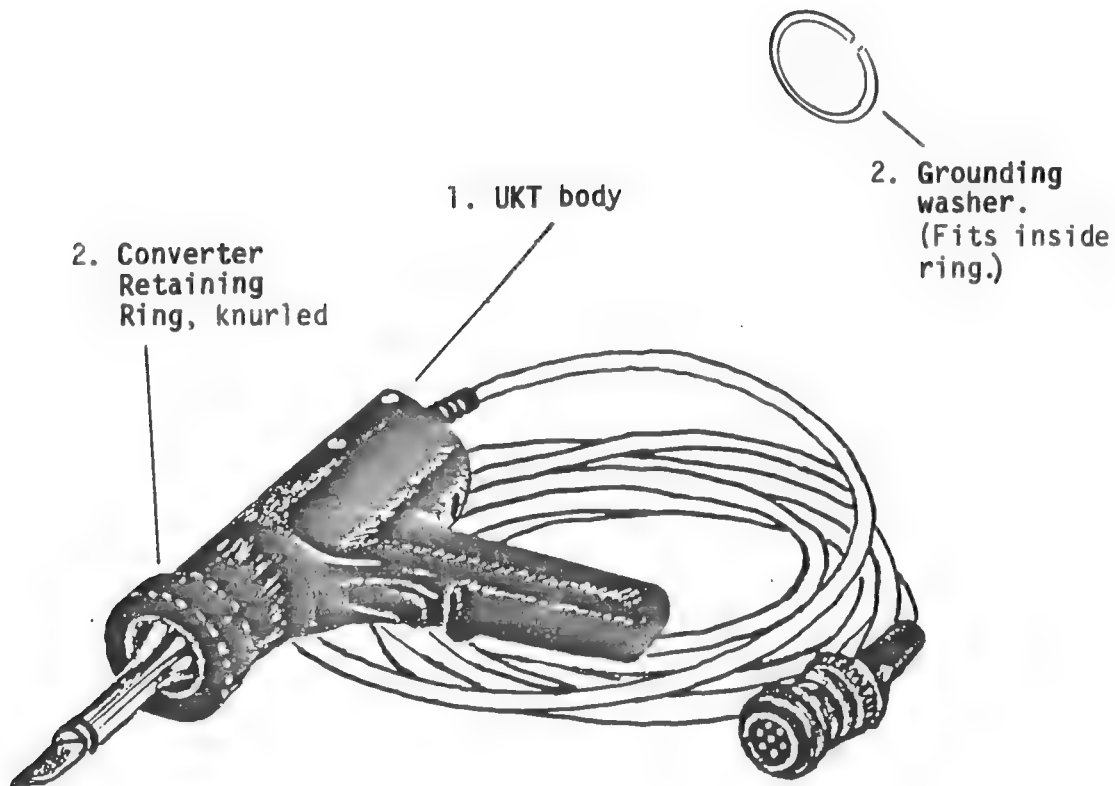

Figure B-1 Ultrasonic Trim Knife
1. Unscrew and remove the converter retaining ring (2) with grounding washer (3) from UTK body (1) (Figure B-1).
2. Pull converter (4) TW1 or TW2 from body.